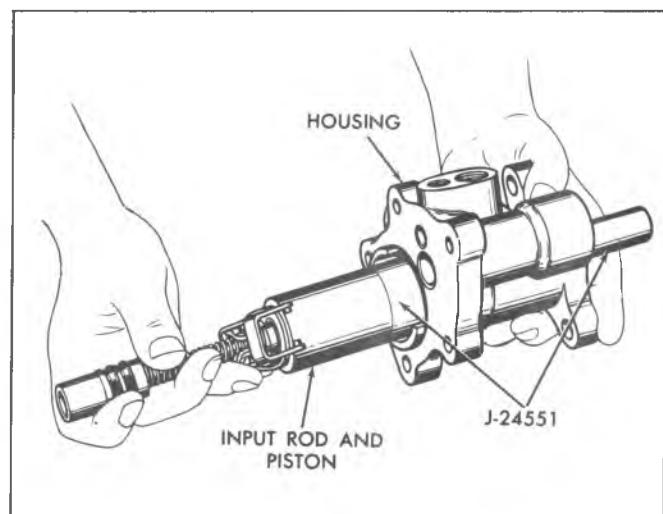

Fig. 5-5E--Installing Input Rod and Piston Assembly into Booster (Typical)
6. Lubricate the piston and Piston Installing Tool J-24551 with clean power steering fluid. Insert the large end of the tool into the piston (fig. 5-5E), and slide the tool and piston into the piston bore and through the piston seal.